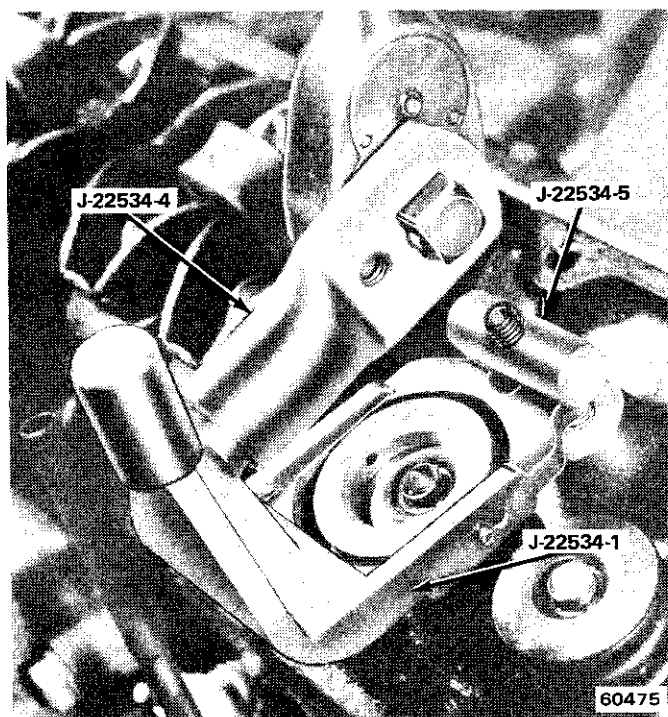

Fig. 1B-68 Valve Spring Removal
- (1) Remove cylinder head cover.
- (2) Remove rocker arm assemblies from valves requiring valve spring or oil deflector removal. Remove two capscrews at each bridged pivot. Alternately loosen capscrews one turn at a time to avoid damaging bridge.
- (3) Remove push rods.
- (4) Remove spark plug from cylinder which requires valve spring or oil deflector removal.
- (5) Install 14mm (thread size) air adapter in spark plug hole.
- (6) Connect air hose to adapter and maintain at least 90 psi (620 kPa) in cylinder to hold valves against their seats.
- (7) Use Valve Spring Remover and Installer Tools J-22534-1, J-22534-4, and J-22534-5 to compress valve spring. Remove valve locks (fig. 1B-68).